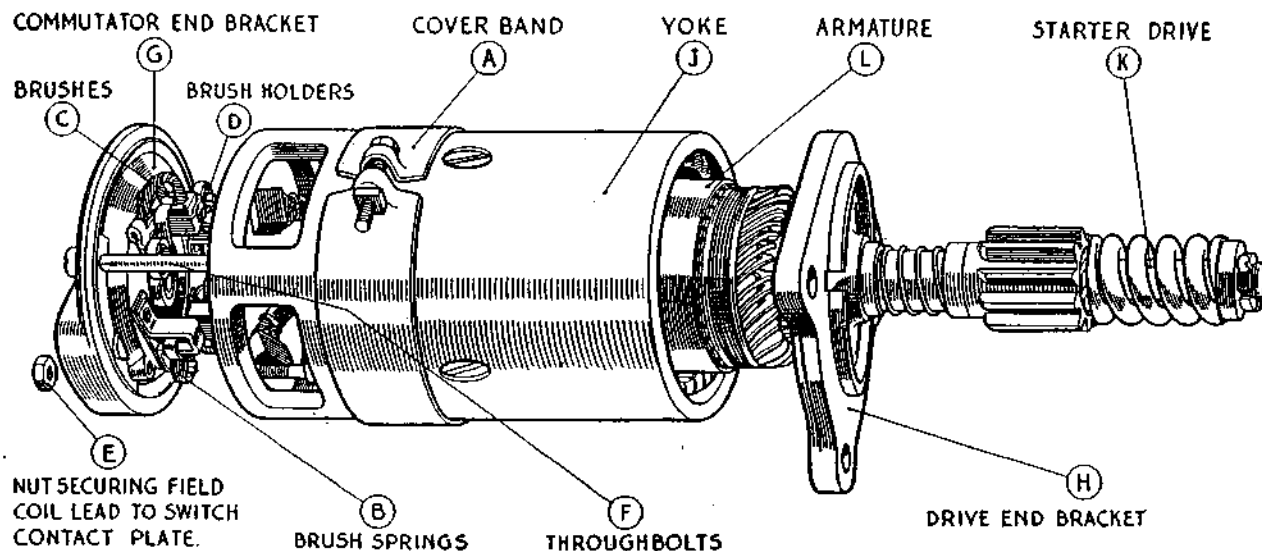

Fig. 2. Exploded view of Starter.
- (a) Remove the cover band "A" (Fig. 2), hold back the brush springs "B" and lift brushes "C" from their holders "D."
- (c) Unscrew the nut "E" securing the field coil lead to the contact plate in the end bracket. Unscrew the two through bolts "F" and remove from the commutator end bracket and withdraw the end bracket "G". Remove the driving end bracket "H" complete with armature "L" and drive "K" from the starter yoke "J" (See Fig. 2).